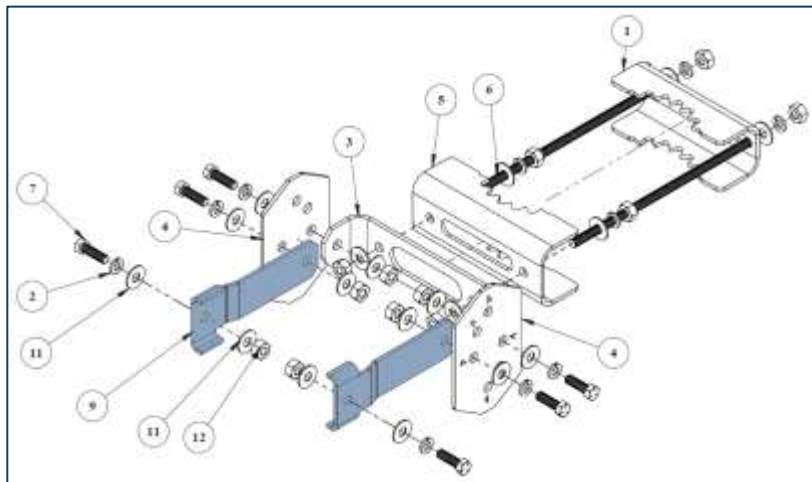

Figure 4: Bottom mount
NOTE: These item numbers refer to Figures 4 and 5 on pages 6 and 7. Item 9 is interchangeable with Item 13, depending on the length of the bracket you wish to use.
1. Install bottom mount pieces—back grip bracket 1, anti-rotation bracket 5, single mount adapter 3, bottom bracket 4, and MX08 extension bracket 9 (highlighted blue)—onto antenna as shown in *Figure 4* using threaded rods 6 and the following 3/8" hardware: 2, 7, 11, and 12.